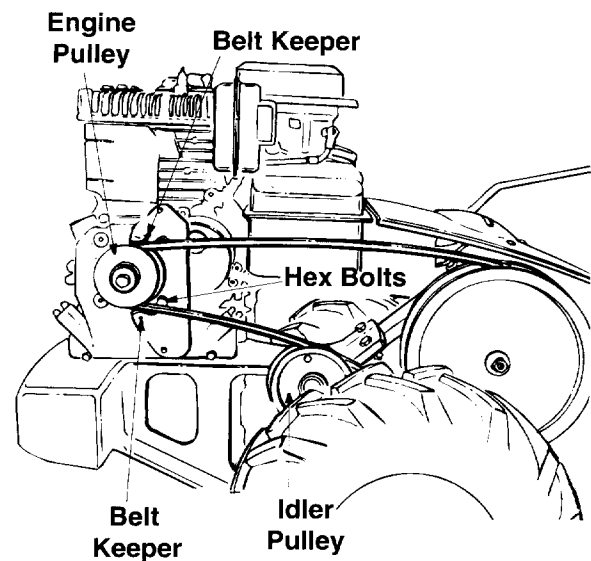

Figure 16
3. Remove the belt keeper assembly located behind the engine pulley by removing two hex bolts and lock washers. See Figure 16.
NOTE: Upon reassembly, make certain the belt is routed over the idler pulley and inside of belt keepers by engine pulley. See Figure 16.